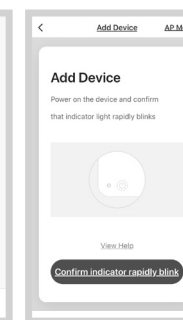

Fig. 8
4. Confirm “Confirm indicator rapidly blink” (Fig. 8).